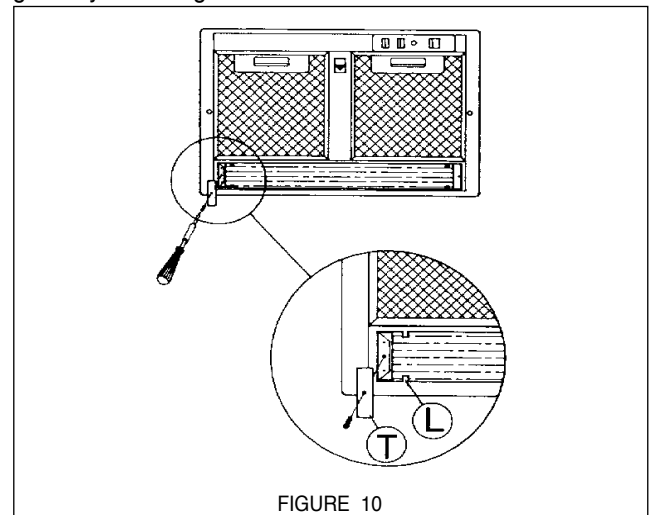

FIGURE 10
To replace the fluorescent light, remove the retainer clips (T) from both ends of the glass diffuser as indicated in FIGURE 10. Carefully slide the glass all the way to one end. Lower the opposite end of the glass below the support flange (L), then remove the glass by sliding it back. Replace the diffuser glass by reversing these directions.